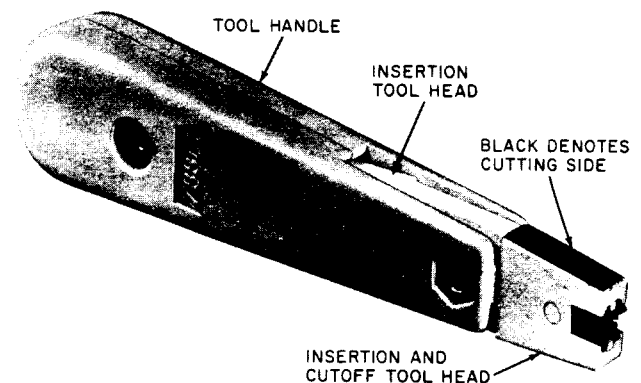

Fig. 1—788D2 Tool (One Pair Insertion Cut-Off Tool)
1.08 The 788D2 tool (one-pair insertion cut-off tool), (Fig. 1), 88BB-1 waterproofing caps, and spool of 24-gauge F cross-connecting wire stored in interfaces are used for interconnecting feeder and distribution cables. *Use only tools and wire specified.*